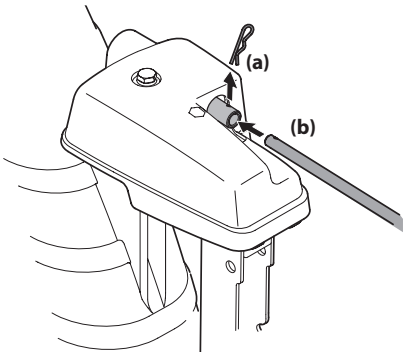

Figure 2-25
- 5. Remove hairpin clip (a) from rear of chute control head. See Figure 2-25.
- 6. Insert chute control rod (b) into rear of chute control head. See Figure 2-25. Secure chute control rod to chute control assembly with hairpin clip (a) removed in Step 5.